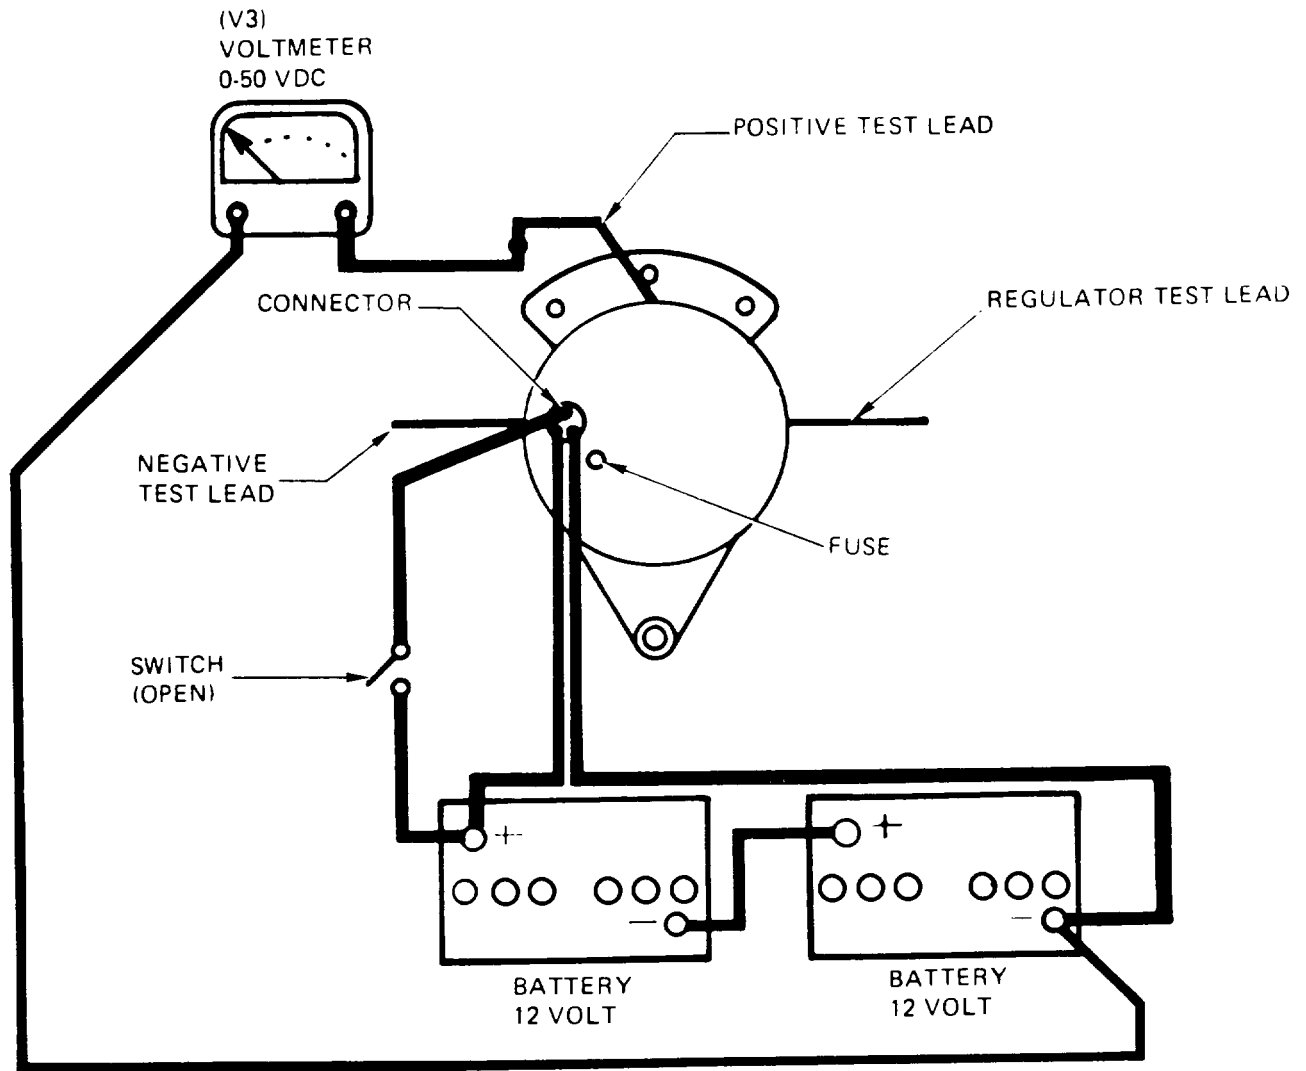

Figure 3-9. Alternator Positive Output Circuit Test
- (c) If voltage at V2 is low or zero, the alternator positive and negative output circuits must be tested as indicated in steps (4) and (5) below.
- (d) If voltage readings at V1 and V2 are identical, proceed with alternator output and voltage protector test in step (10) below.
- (4) Test alternator positive output circuit as follows:
- (a) Check voltage at V3 as shown in figure 3-9.